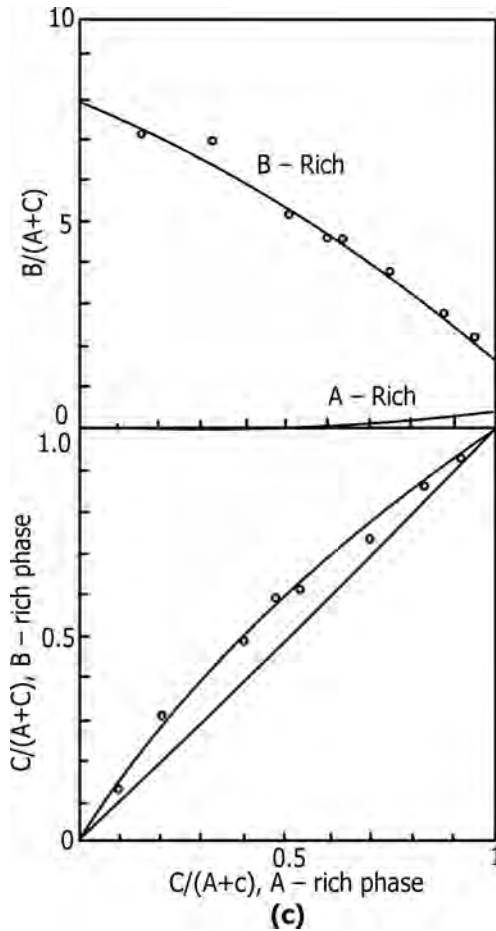

FIGURE 17.46 (Continued)
- Figure 17.46 represents Type II equilibria for *n*-hexane–aniline–methylcyclopentane.
FIGURE 17.46 Ternary equilibria for Type II system. Hexane (A)–aniline (B)–methylcyclopentane (C) at 34.5°C. (a) Equilateral triangular plot, (b) right-angled triangular plot, and (c) rectangular coordinate plot (Janecke and solvent-free coordinates).